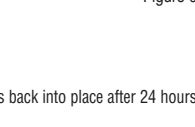

Figure 11
- **Sacrificial board:** If the wall is not straight, scribe the first board (Figure 11) as necessary to maintain alignment with the chalk line. Install a sacrificial board (with a straight edge) using the appropriate fasteners for the subfloor. If a board is used for the starter row make certain the groove faces the wall.
- **Wedges:** Align the first row with the wall using wedges to maintain a 1/2” (13 mm) expansion in place and to stabilize the product. If the wall is not straight, scribe the first board (Figure 11) as necessary to maintain alignment with the chalk line.